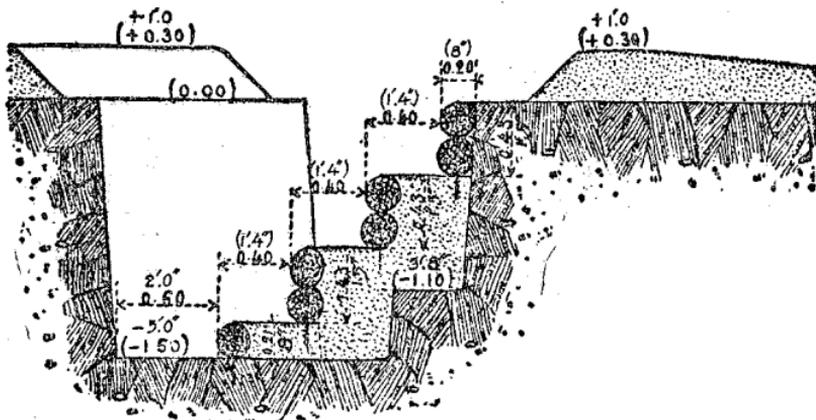

FIG. 213.—Sortie steps.
*Arrangements for entering and leaving the trenches.*—The steps (fig. 213) allow access to the natural surface of the